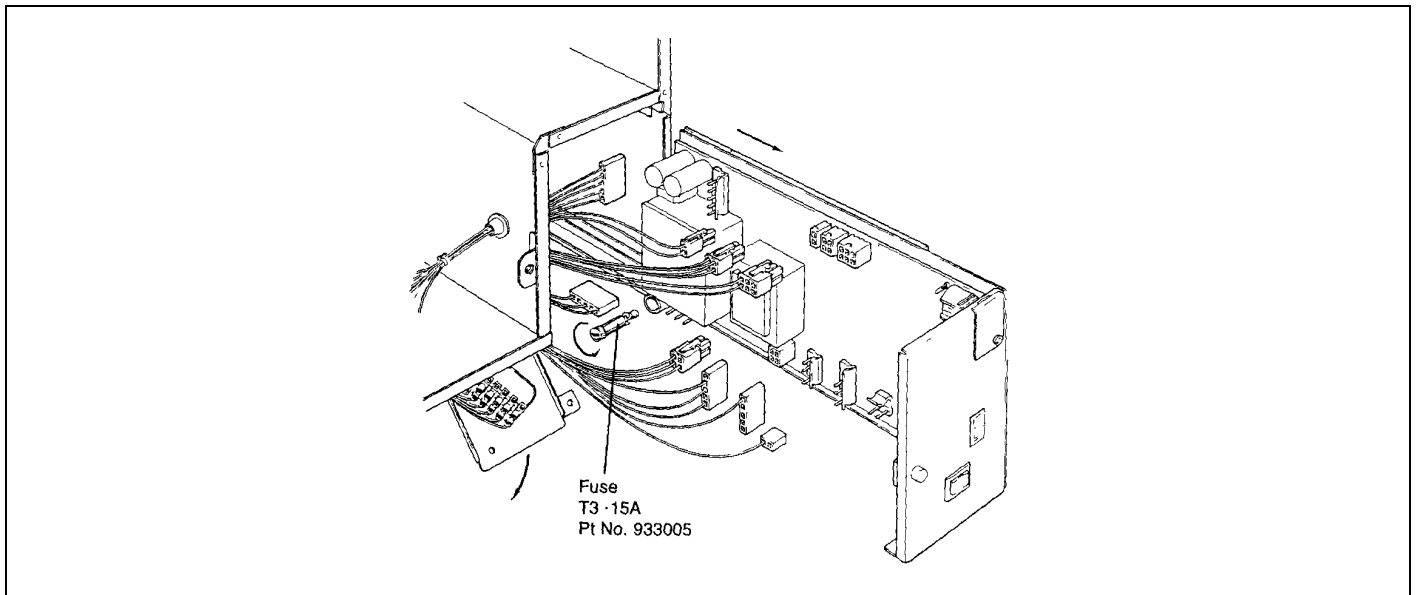

FIG. 23 REMOVING CONTROL TRAY
- d) Gently pull front panel forward removing connectors from the control as they become accessible. FIG. 23.